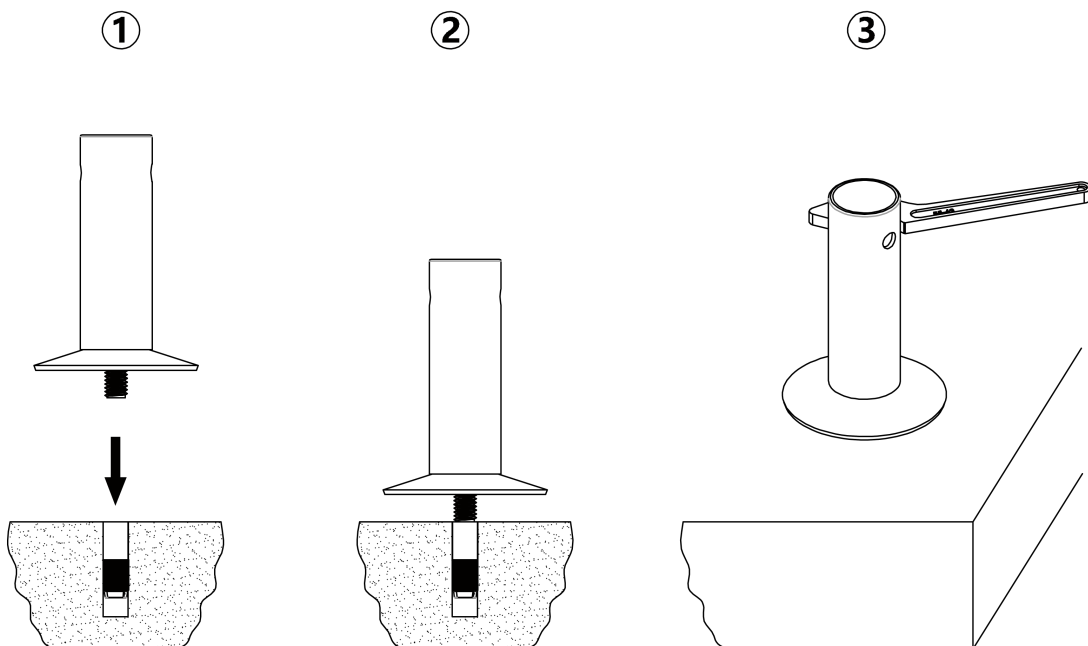

Figure 2
3) Tighten the bolt to the anchor with a special spanner supplied by APAC until it does not move anymore. Check as Figure 2